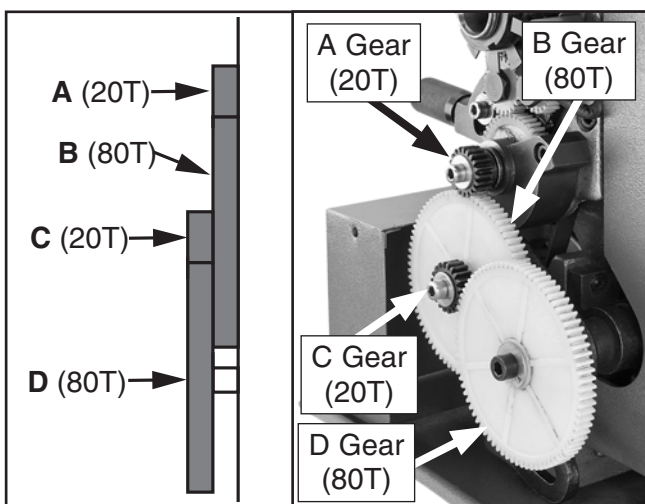

Figure 55. Power feed end gear configuration.
7. Replace A and C gears with 20T gears, and B and D gears with 80T gears (see **Figure 55** on **Page 43**). The printed gear letters should face outward.
The end gears are preset by the factory in this configuration, which is only used for power feeding. Mesh the top 20T A gear with the 80T B gear, and mesh the 20T C gear with the 80T D gear (see **Figure 55**).